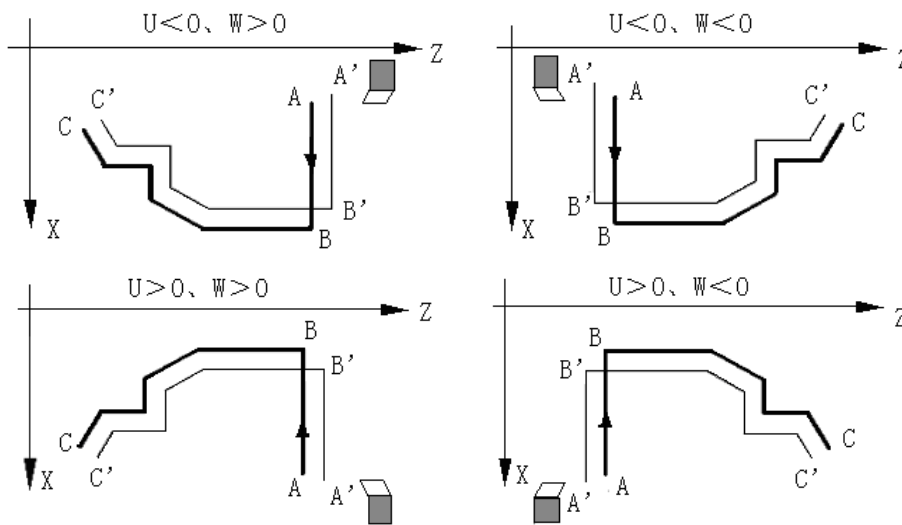

Fig. 4-40
- 9) G710 is the same with G71 ②, and their internal can execute the tool nose radius compensation, and its programming rules and format are same those of G71 ②.
- 10) Coordinate offset direction in left roughing allowance: U,W in ① expresses the coordinate offset and cut-in direction in finishing, U, W sign compound is as Fig. 4-40: B→C is finishing path, B'→C' is roughing contour, A is the start-up point.